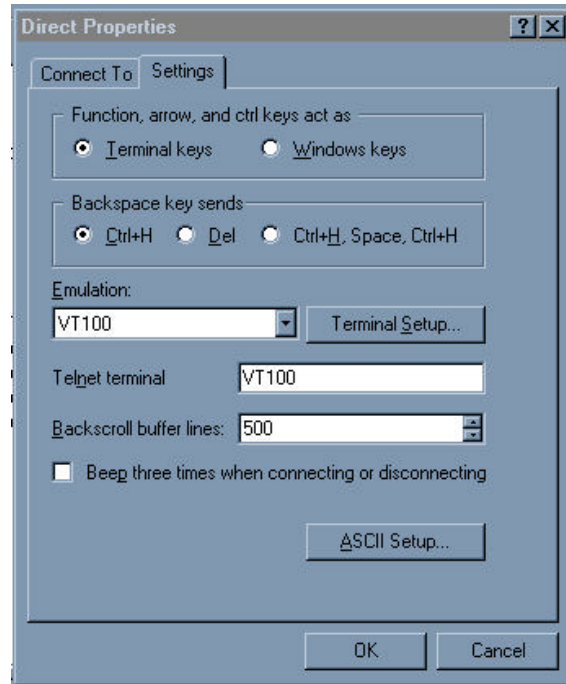

Figure 4-6. HyperTerminal Settings Tab
5. Select "File, Properties" from the menu bar and then select the "Settings" tab in the Properties dialog box. Match the settings to those in Figure 4-6.